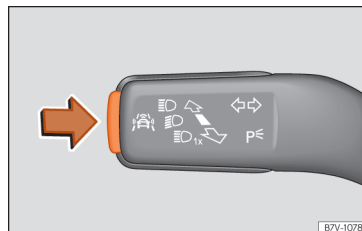

Fig. 83 On the turn signal and main beam lever: button for driver assistance systems.
- Briefly press the » Fig. 83 button to open the **Assistants** menu.